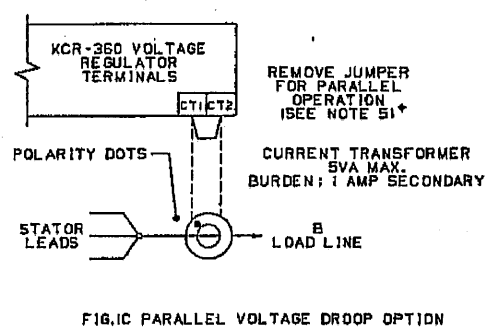

FIG. 1C PARALLEL VOLTAGE DROOP OPTION
- NOTE 5 IN APPLICATIONS WHERE PARALLEL OPTION IS NOT PROVIDED, A JUMPER MUST BE INSTALLED ACROSS TERMINALS CT1 AND CT2. IN THREE PHASE APPLICATIONS WHERE PARALLEL OPERATION VOLTAGE DROOP OPTION IS PROVIDED, REMOVE JUMPER AND CONNECT THE VOLTAGE DROOP CIRCUIT AS SHOWN IN FIGURE 1C. CURRENT TRANSFORMER MUST BE IN PHASE B LINE. FOR PARALLEL OPERATIONS OF GENERATORS CONNECTED SINGLE PHASE, CONSULT FACTORY.